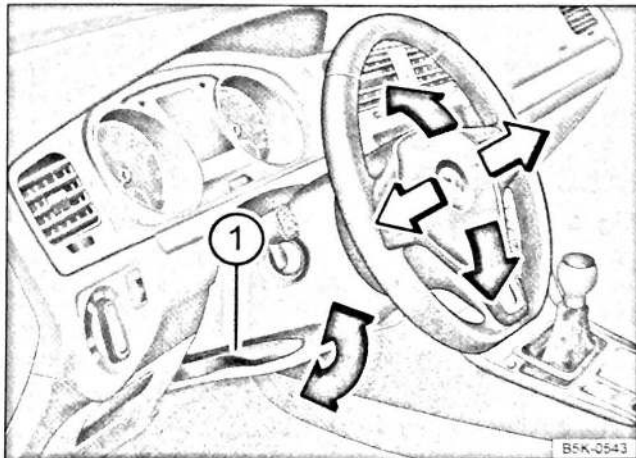

Fig. 50 Adjusting the steering wheel position mechanically
- Push down the lever $\Rightarrow$ Fig. 50 **①**.